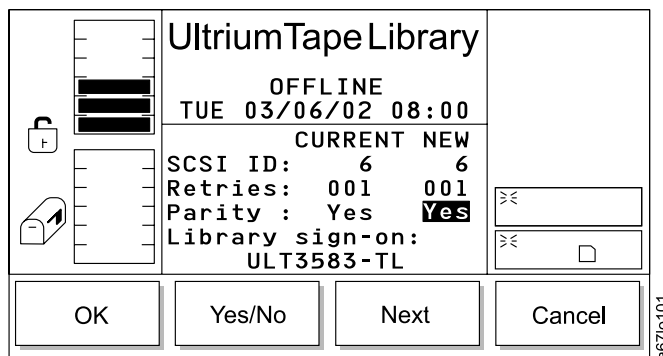

Figure 142. Parity Dialog
- If **Next** is selected, the next field in the list becomes the active field. If the next field is the Parity field and you press the button below **OK**, the Parity Dialog displays (see Figure 142).